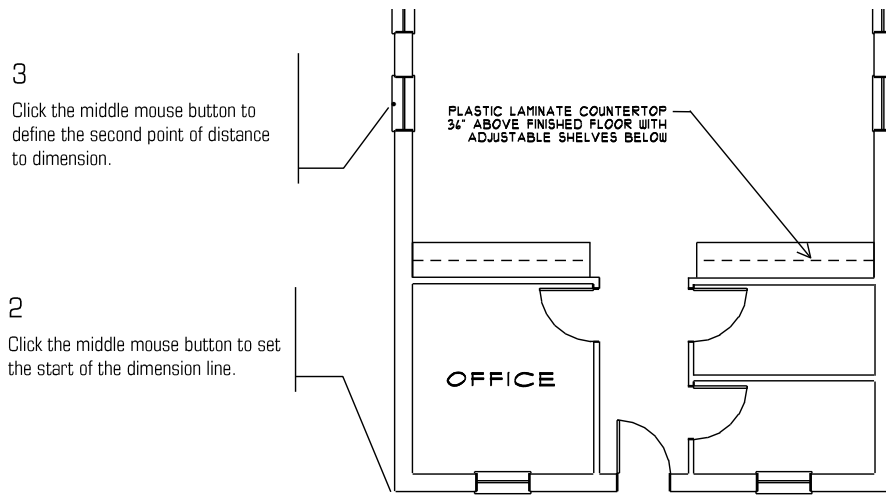

Figure 4.9: Placing the first dimension on the drawing
2. Move the cursor to the lower left corner of the exterior wall and click the middle mouse button or press (N) on the keyboard to object snap to the corner. You are prompted to *Select second point of distance to dimension*.
3. Move the cursor to the snap point of the window shown in Figure 4.9 and click the middle mouse button to snap to it. You are prompted with *Dimension which side of line?*